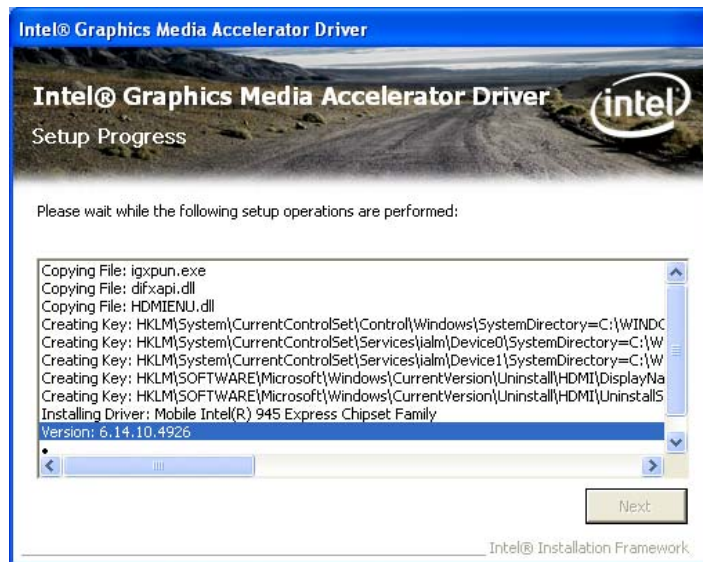

Figure 7-13: VGA Driver Setup Operations
Step 13: Setup Operations are performed as shown in **Figure 7-13**.